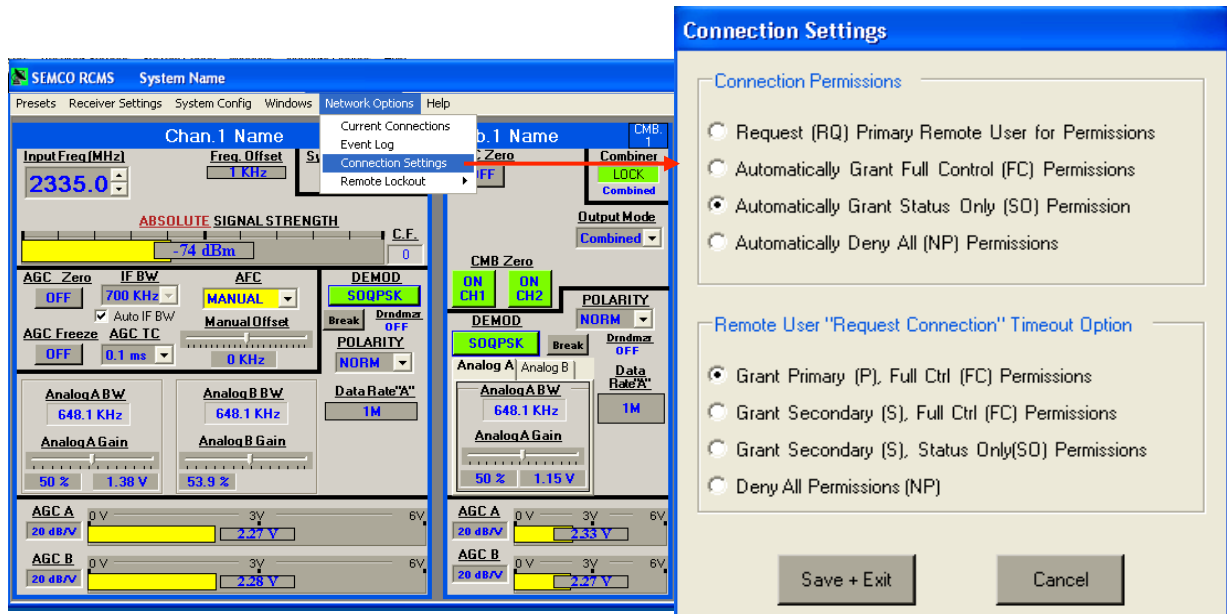

Figure 5-2
Figure 5-2 depicts the “Network Options” and “Connection Settings” menu on an individual system’s RCMS Local application.
Referring to Figure 5-2, when a PC running the RCMS Remote application makes a connection to a system running the RCMS Local application, the remote connection is given rank and permissions based on the system’s current Connection Settings.
Referring again to Figure 5-2, remote connection permissions depend on the following criteria:
- A. **Full Control (FC)** – Full Control (FC) is always given to any Primary (P) rank remote connection. Full Control is also given to a Secondary (S) rank remote connection if the receiver’s Connection Settings are set to “Automatically Grant Full Control (FC) Permissions” or they are set to “Request (RQ) Primary Remote User for Permissions” and, in this latter case the user at the Primary (P) remote PC grants Full Control permissions. Full Control (FC) remote connections have the ability to monitor all receiver status displays as well as have full control over all the receiver’s controls and settings.
- B. **Status Only (SO)** – Status Only (SO) is given to any Secondary rank remote connection if the receiver’s Connection Settings are set to “Automatically Grant Status Only Permissions” or they are set to “Request (RQ) Primary Remote User for Permissions” and the user at the Primary remote PC grants Status Only permissions. The remote connection will only have the ability to monitor the receiver’s signal statuses, controls and settings. All controls and settings will be locked out.
- C. **No Permissions (NP)** – No Permissions (NP) is given to any Secondary (S) rank remote connection if the receiver’s Connection Settings are set to “Automatically Deny All (NP) Permissions” or they are set to “Request (RQ) Primary Remote User for Permissions” and the user at the Primary remote PC grants “No Permissions”. The remote connection will not be able to monitor or control any of the receiver’s statuses, controls or settings.
- D. **Request Pending (RP)** - Is given to any Secondary rank remote connection if the receiver’s Connection Settings are set to “Request (RQ) Primary Remote User for Permissions” and the user at the Primary remote PC has not yet responded to the request. The remote connection will not be able to monitor or control any of the receiver’s statuses, controls or settings until the user at the Primary remote PC responds to the request.
- E. **Remote User “Request Connection” Timeout Option** – Referring again to Figure 5-2, this feature sets what the receiver will do if its Connection Permissions are set to “(RQ) Request Primary Remote User for Permissions” and the Primary Remote User does not respond within 2 minutes to the new remote connection request. This feature allows another remote connection to be made when the Primary Remote User is not at his/her PC.